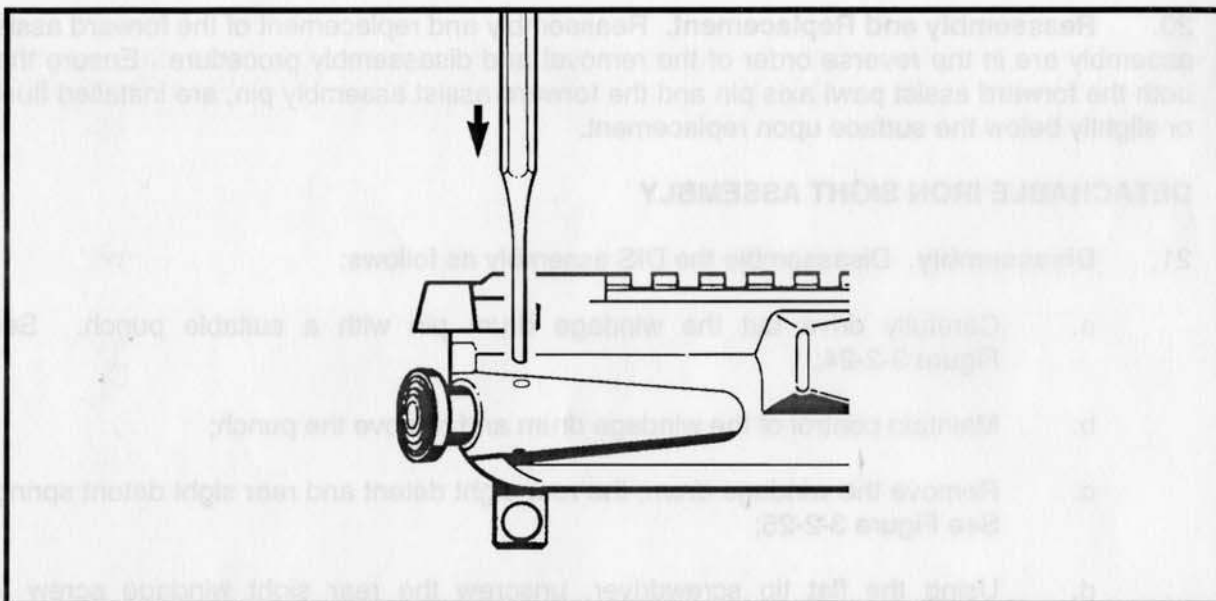

Figure 3-2-22 Removing the Forward Assist Assembly
- a. Drive out the forward assist assembly pin using a suitable punch. See Figure 3-2-22;